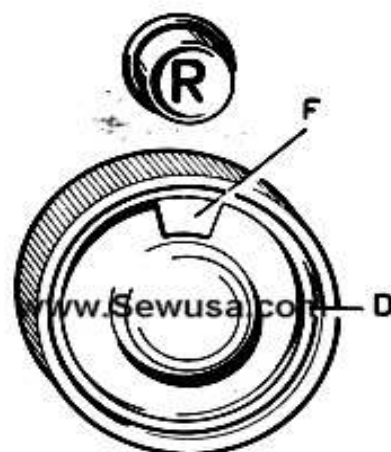

Fig. 14
- Turn button « D » (Fig. 14); the stitch length given in mm. is visible through small window « F ».
- Push button « R » completely (Fig. 14); the machine will sew in reverse with the stitch length regulated by button « D ».